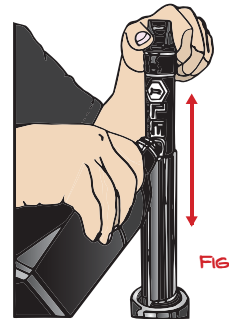

FIGURE 6
- B. POUR OIL IN TOP OF TUBE, YOU WILL NEED TO PUMP THE STANCHION A FEW TIMES WHILE DOING THIS TO LET OIL DRAIN DOWN INTO TUBE. **FIGURE 6.**